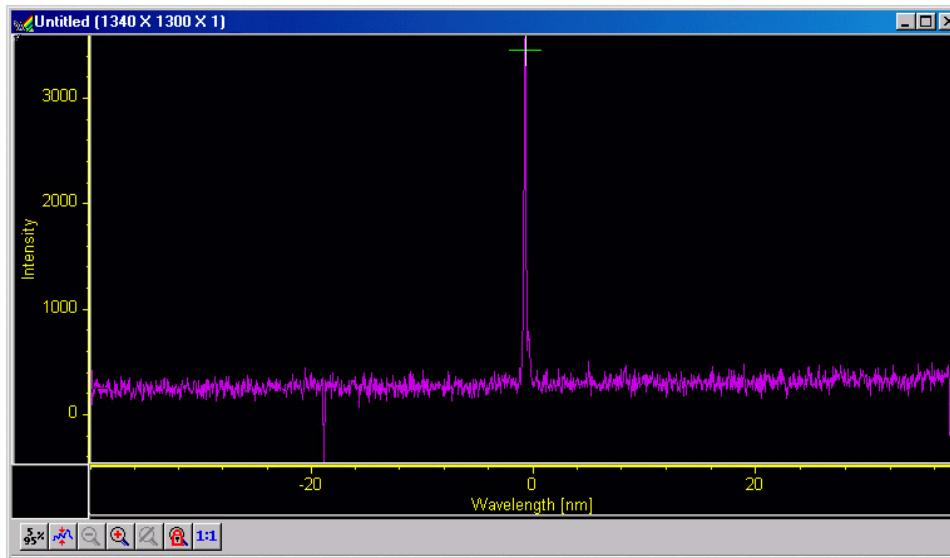

Figure 68. Offset Spectrum for Zero-order Measurement
5. Figure 68 illustrates a typical Offset data acquisition. The reference peak should appear near the center of the display and the cursor should be near or on the highest point of the peak. If the peak is saturated, cancel, lower the exposure time, and repeat the operation. The display X-axis should be calibrated (any units other than pixels). *If the X-axis is calibrated in pixels, select the desired units as the calibration units on the Usage dialog box (opened by selecting Usage from the Calibration menu).*